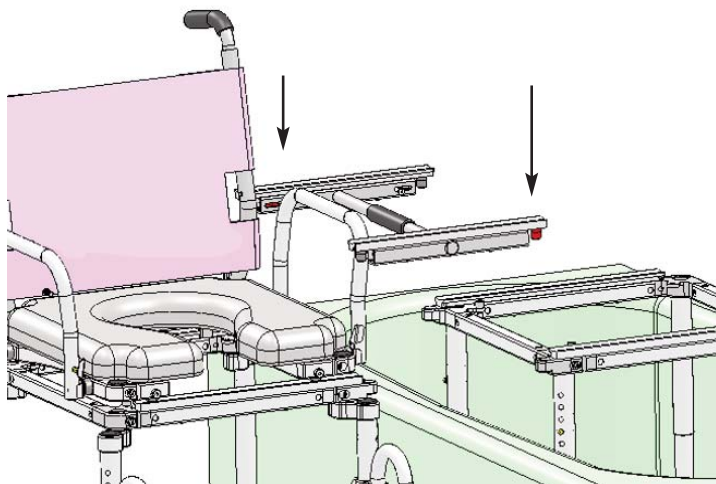

Figure 5
- F Place the connector bridge into the matching holes on both the commode section and tub section (Refer to Figure 5).